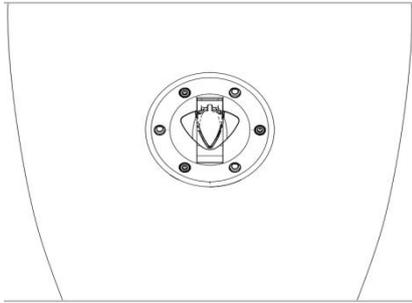

Fig.9 Tank cover
4.7. The way to open the fuel tank cap (Figure 9)